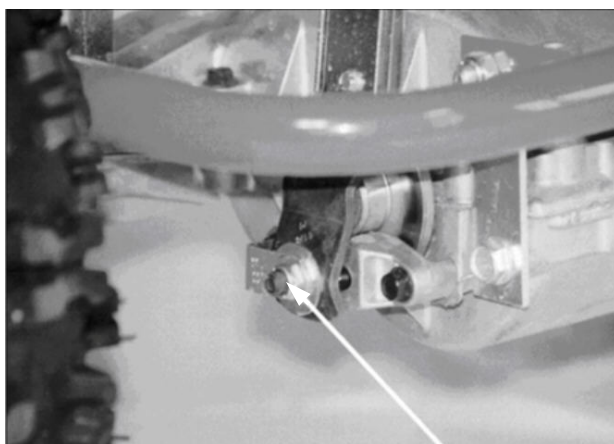

Figure 19
4. If it does move, turn the Adjustment Nut on the Transaxle (**Figure 19**) 1/4 turn clockwise with a 1/2" Wrench to tighten the Parking Brake. Test the Parking brake as described in steps 1-3. Repeat the adjustment if necessary.
5. If you cannot get the Parking Brake to release, turn the Adjustment Nut on the Transaxle (**Figure 19**) 1/4 turn counterclockwise with a 1/2" wrench to loosen the Parking Brake. Test the Parking Brake, as described in steps 1-3. Repeat the adjustment if necessary.